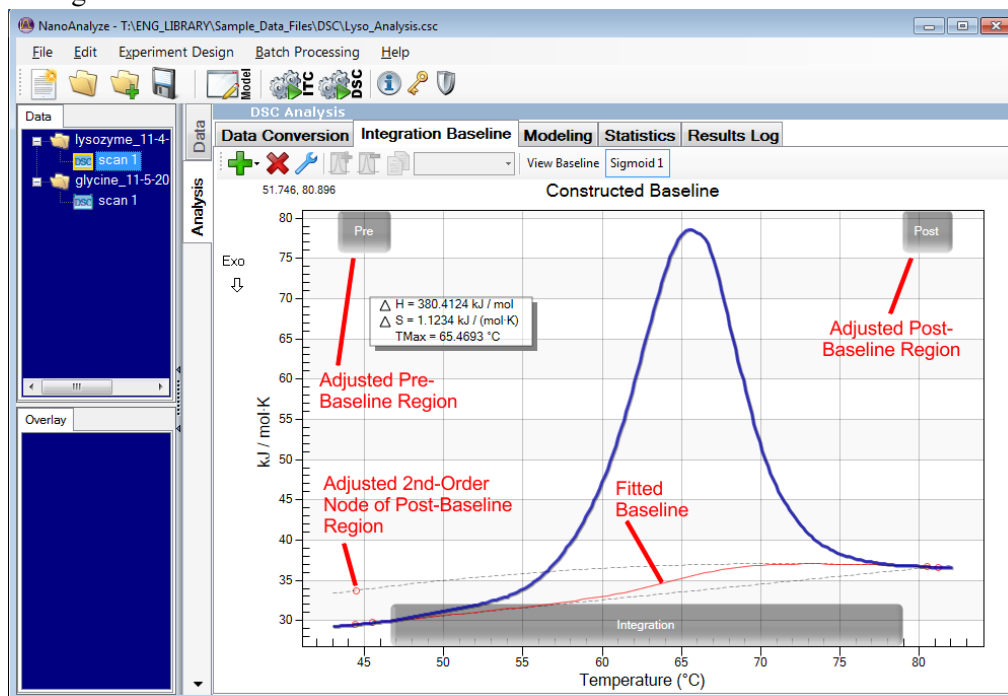

Figure 42 Manually adjust pre- and post-transitional baseline.
- Adjust the baseline fits by moving the handles within the chart. In the example in Figure 42, the second-order baseline on the right was adjusted to remove the curvature. Note that the handle can be moved out beyond the actual post baseline region, for ease of accurate adjustment. The enthalpy is calculated on a molar basis at this point.